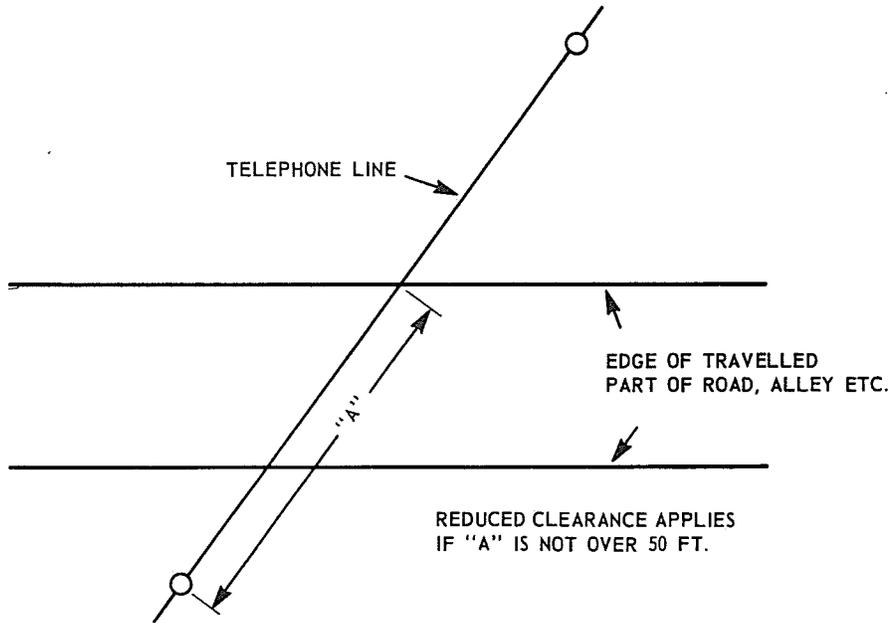

Fig. 1
1.03 Note that clearances shown for wire overhanging the traveled part of roads are considerably larger than the clearances specified where no such overhang is involved. Also, clearances for wires crossing roads, alleys and driveways show one set of values for general use and another set of smaller values for use when one pole is within 50 feet of the far edge (as shown in Fig. 1). Pole height at road crossings, etc can often be reduced without unduly shortening span lengths by locating poles so as to stay within the 50 foot limit.
1.04 Where poles can be located so as to be within 50 feet of the far edge of a road, alley or driveway (as per Fig. 1), the low point of the span (generally the middle) will frequently fall beyond the edge of the road, etc. Thus, in determining the height of attachment it will not always be necessary to use 100 per cent of the midspan sag. The per cent of midspan sag to be used in this situation is shown in the table below.